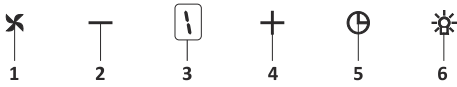

Fig. 21: 5 Spd Dig Button
1. Press this button to turn on the product.Fig. 21
2. Press this button to decrease the motor speed.Fig. 21
3. Dig display You can follow which speed the product is currently working on this display.Fig. 21
4. Press this button to increase the motor speed.Fig. 21
5. When timer button is pressed, a 15-minute timer function will be activated; display will give a signal once the timer starts and the motor will stop automatically after 15 minutes.Fig. 21
6. Press this button to turn on and off the lamp.Fig. 21